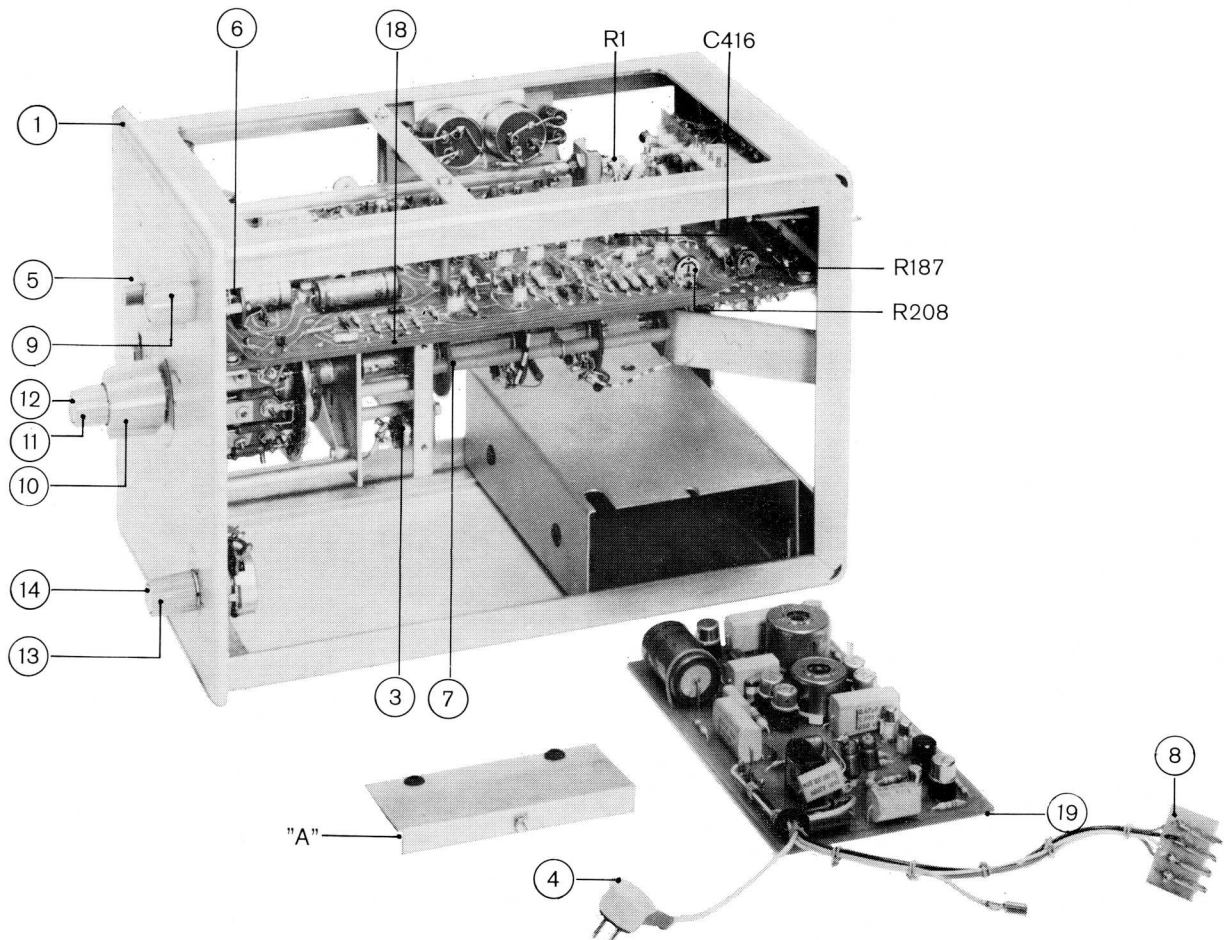

Fig. 13. Right-hand view
It is possible to remove the chopper-amplifier from its housing after removing lid "A" (Fig. 13) and a four pin plug, a three pin plug and a single pin plug. If measurements are carried out when the amplifier is out of its housing, it should be carefully screened to avoid hum.
**R187 (Fig. 13)**
**R208 (Fig. 13). C416 (Fig. 13)**